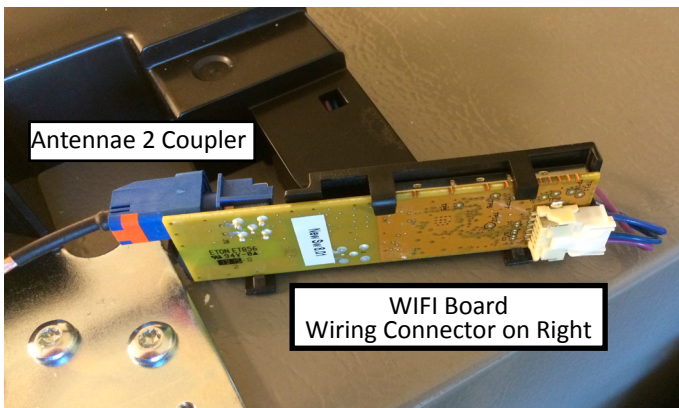

FIGURE 6: WIFI Board with Antennae Coupler
2. Depress the blue tab and disconnect the antennae coupler (FIGURE 6).
3. Remove the wiring connector from the other end of the board (FIGURE 6).